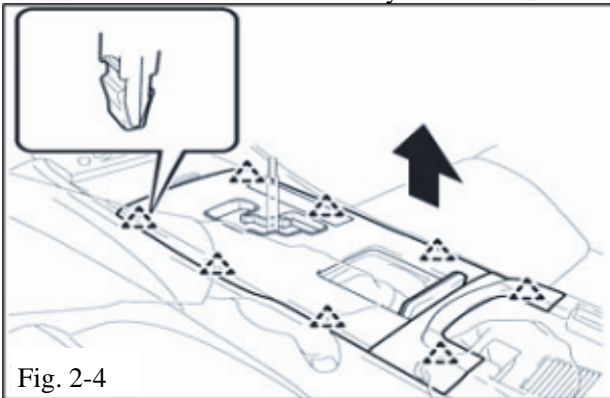

Fig. 2-4
- (1) By hand gently pull upward to release clips and remove the trim. (Fig. 2-4)
- (2) Disconnect any connectors.